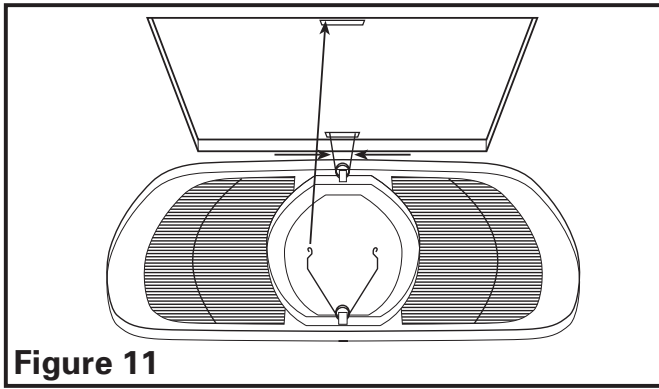

Figure 11
- Install the grill by squeezing the two ends of the springs together and installing them up into the slots on the fan's housing. Push the grill up into position (**Figure 11**).